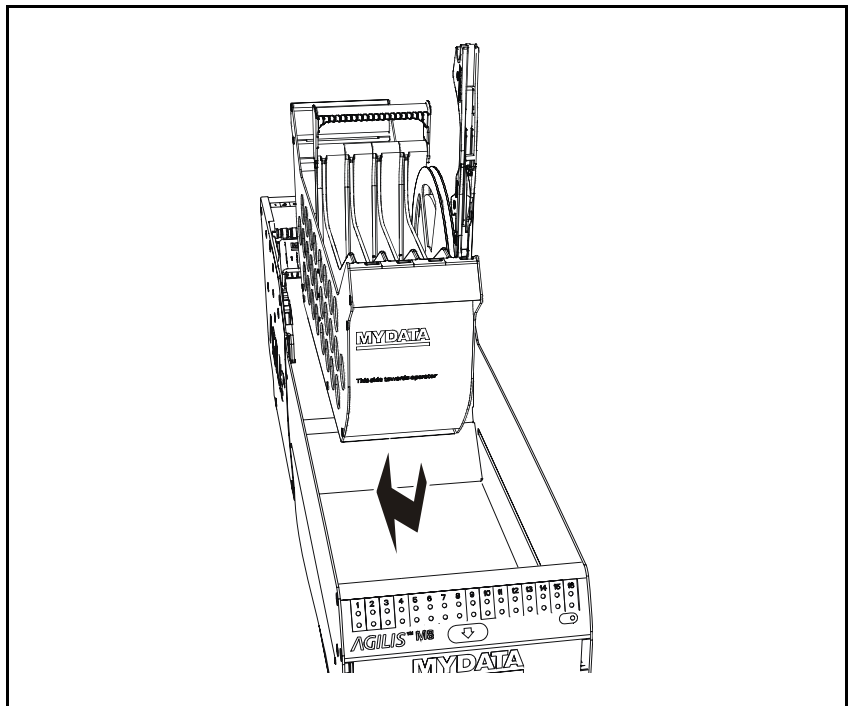

Figure 5-17. Placing the bin in a magazine.
3. Place the bin into a magazine. There is a text on one side of the bin, which must be directed as shown in Figure 5-17.